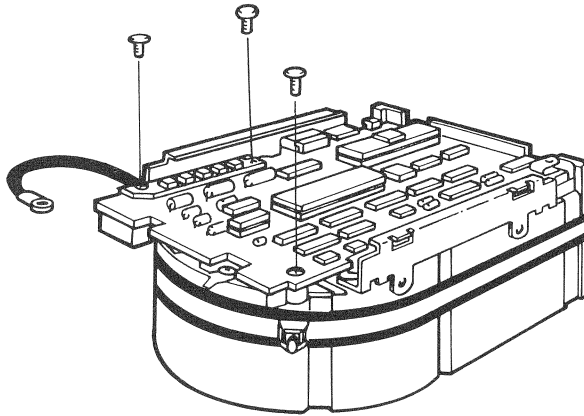

Figure 8-14 Removal of Phillips Screws from Heatsink
5. Remove the three Phillips screws from the heatsink, the grounding strip, and the corner opposite the heatsink (Figure 8-14).